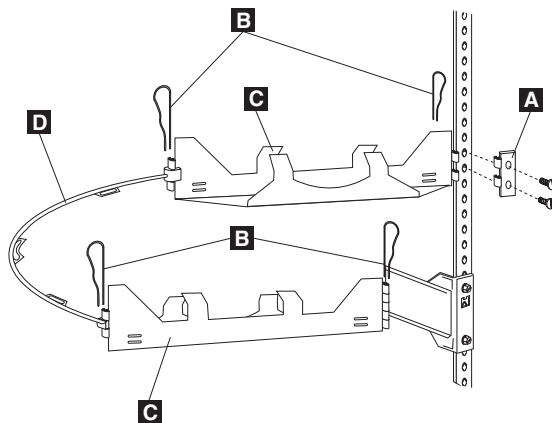

Figure 17. Assembling and installing the cable-management arms
**Note:** You must position the rigid cable-management arms **C** as shown in Figure 17.